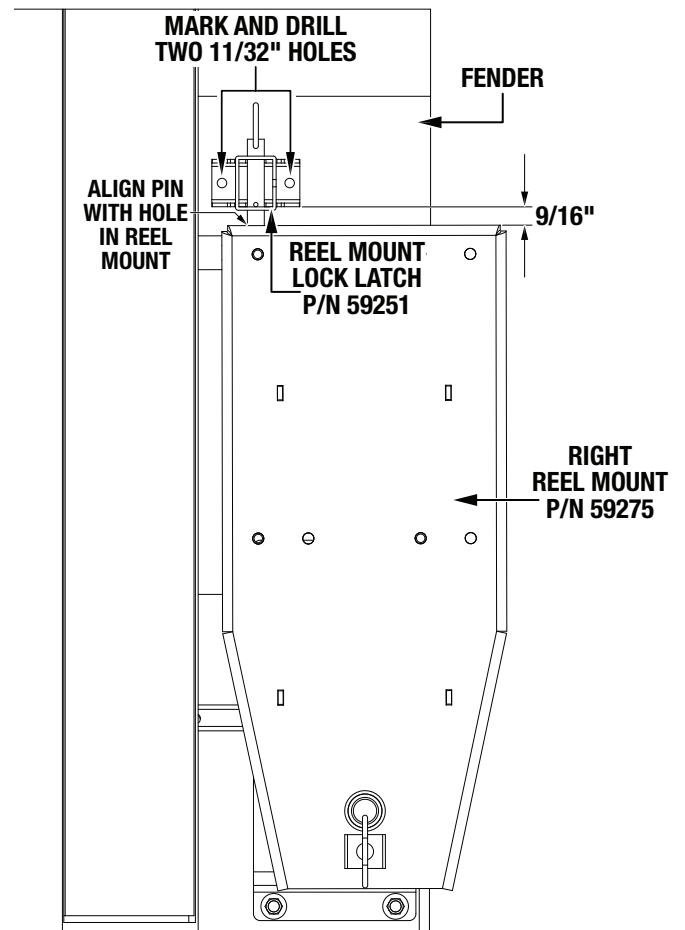

Figure 25. Drill Reel Mount Lock Latch Holes
- Place the reel mount lock latch (P/N 59251) onto the fender 9/16-inch from the end of the right reel mount (P/N 59275). Align the pin in the center of the reel mount lock latch with the hole in the reel mount. See Figure 25.
- Make sure the reel mount (P/N 59275) swings out freely without hitting the reel mount lock latch (P/N 59251), then mark the two lock latch hole positions on the right fender with a scribe or equivalent tool. See Figure 25.
- Drill two 11/32-inch holes into the top of the fender (Figure 25).